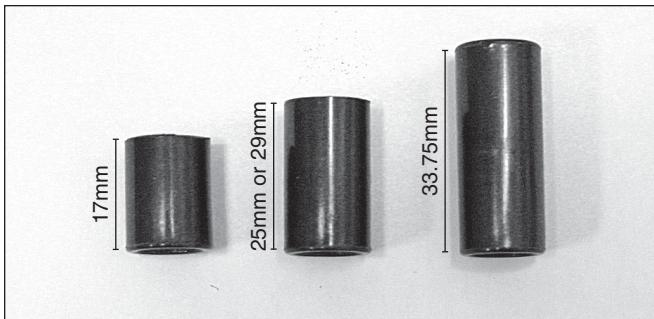
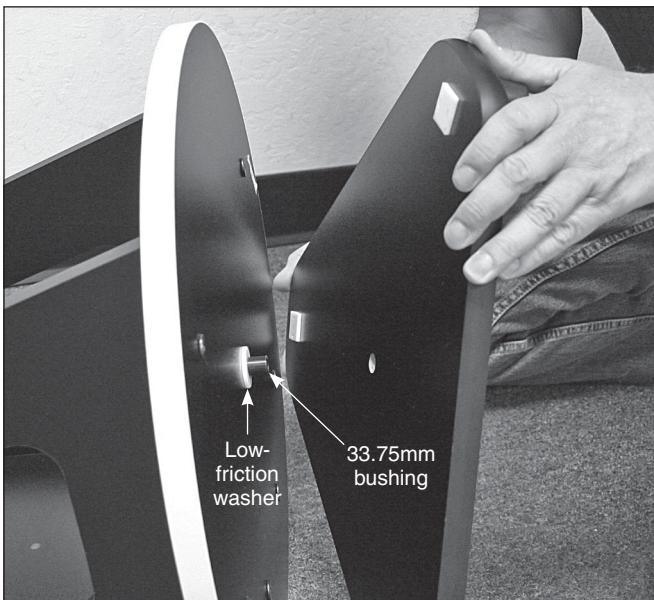

Figure 4. Three plastic bushings used in the assembly of the XT PLUS.
Figure 5. Assembly of the groundplates.
1. Screw the plastic feet (A) into the underside of the bottom (triangular) groundplate (B) using the self-tapping wood screws provided, with a Phillips screwdriver. Insert the screws through the feet and thread them into the predrilled starter holes until tight.
2. Loosely attach the front brace (C) to the two side panels (D) with six of the black base assembly screws (E) in the predrilled holes. Use the 4mm hex key to tighten the screws. The side panels should be oriented so the "SkyQuest XT PLUS" label is facing outward. Do not completely tighten the screws yet.
3. Line up one of the altitude bearing cylinders (F) with one of the four bearing cylinder holes on the inside surface of each side panel. Push a bearing cylinder screw (G) through the side panel from the outside and thread the bearing cylinder onto it. You can tighten the cylinder by hand or, if needed, with the supplied 4mm hex key. Repeat for the remaining three bearing cylinders.
4. Attach the side and front panel assembly to the top groundplate (H) with the remaining six base assembly screws in the predrilled holes. Tighten all six screws.
6. Turn the base on its side. Insert the longest (33.75mm) of the three black plastic bushings (I, see **Figure 4**) into the hole in the center of the top groundplate (H). Push the bushing in so it goes all the way into the groundplate, sticking out from the bottom surface (**Figure 5**).
7. Now place the white low-friction spacer washer (J) on the portion of the bushing sticking out from the bottom (**Figure 5**).
8. Install the bottom groundplate (B) by lining up its center hole with the nylon bushing. The white low-friction spacer
- washer should now be between the two groundplates (**Figure 5**).